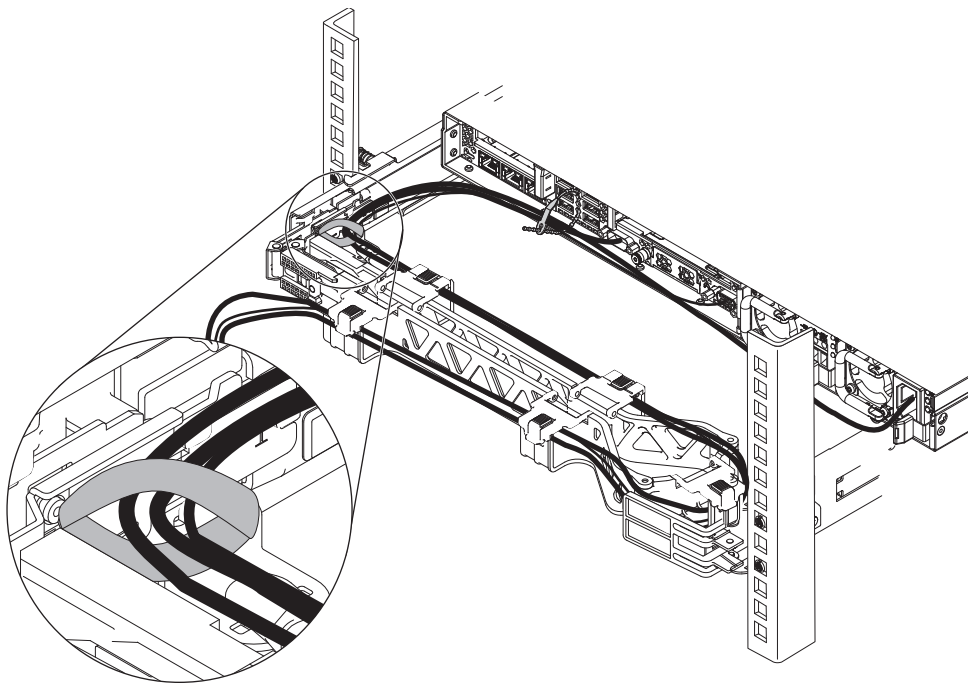

Figure 33. Securing the cables with hook-and-loop fastener strap
7. Secure the cables with the hook-and-loop fastener strap, as shown in Figure 33 on page 44. Cables must be bundled with the hook-and-loop fastener strap to ensure full range of movement of the cable management arm.